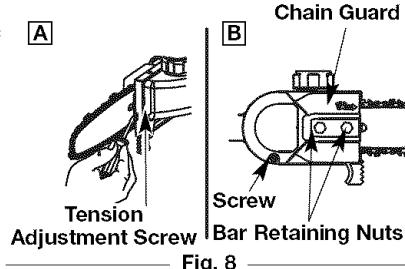

Fig. 8
1. Remove the bar retaining nuts and screw. Then take off the chain guard (Fig. 8, B).
2. Using a flat-head screwdriver turn tension adjustment screw counterclockwise (Fig. 8, A) 4 turns.
6. Adjust the tension adjustment screw (Fig. 8, A) to allow insertion of the bar (Fig. 10). Make sure the chain follows the slot in the guide bar and adjust the tension adjustment screw to make the chain fit snugly on the underside of the bar.
7. Install the chain guard and tighten bar retaining nuts and screw (Fig. 8, B).
1. Loosen the bar retaining nuts so they are hand tight (Fig. 8, B).
2. Holding the nose of the bar up, use the screwdriver to turn the guide bar adjustment screw clockwise to tighten the chain (Fig. 8, A). Turning the screw counterclockwise loosens the chain on the guide bar.